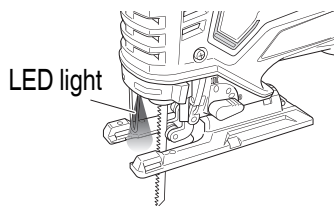

Fig. 11
14. How to use the LED light (Fig. 11)